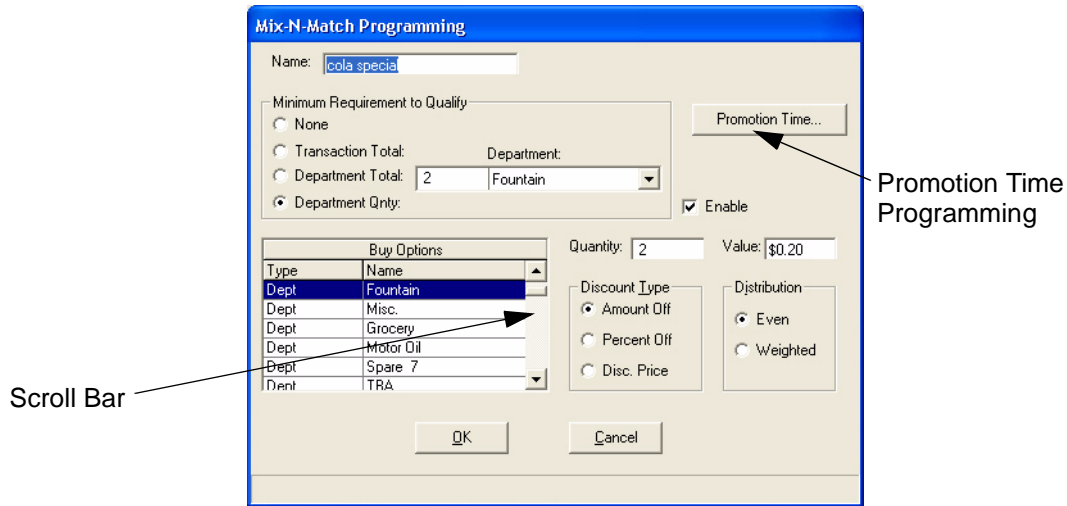

Figure 13-8 Mix-N-Match Programming Window
2. Select **Add** or highlight an existing item and touch the **Modify** button to display the Mix-N-Match programming window. See Figure 13-8.
In the example in Figure 13-8, the Mix-N-Match classification is named Cola special. For the Cola special, the Quantity programmed is 2, the Buy Options type is set to the Fountain department, and the Discount Price is set to \$0.20. Therefore, when a customer buys 2 items from the Fountain department, the system will automatically apply the Cola special to this purchase by deducting \$0.20 from the total price.